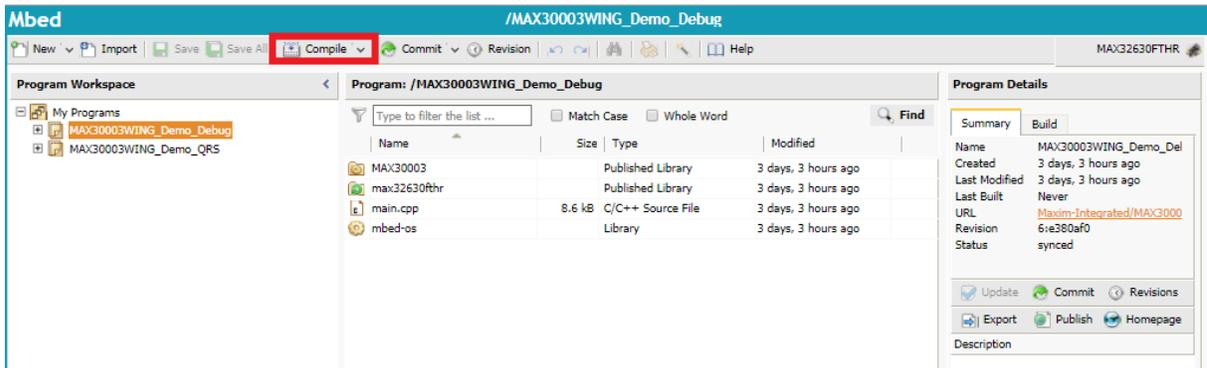

Figure 6. Highlights the Compile command button in the Mbed compiler with a red box.
7. With the desired example program selected in the program work space, click the Compile button in the command banner at the top of the screen. **Figure 6** highlights the Compile button. This initiates the download of the program's binary file.